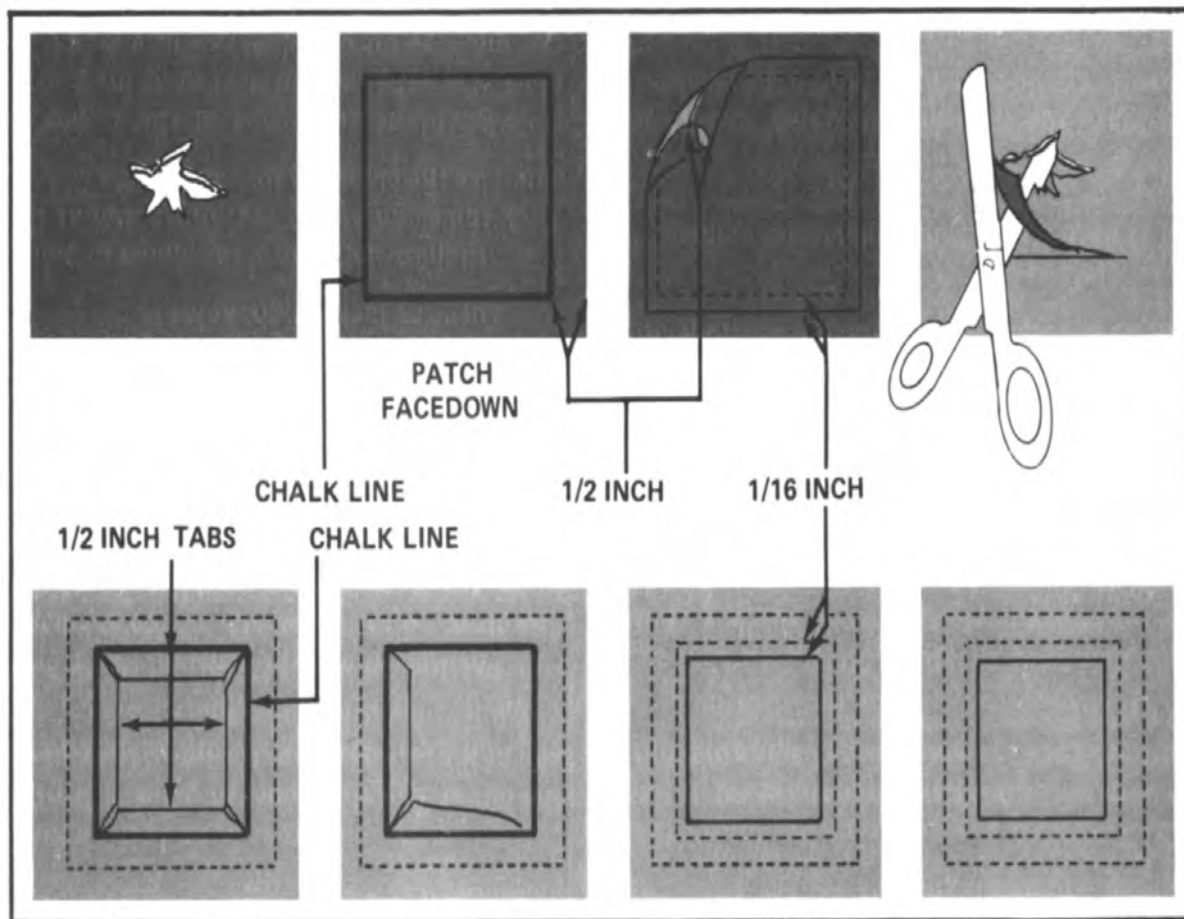

Figure 4-5. Top patch
(1) Top Patch. A top patch (Figure 4-5) is sewn to the outside of a garment or to the top of a textile item. This patch is a piece of material that matches the item being repaired and is cut at least 2 1/2 inches larger on all sides than the hole or damaged area to be covered. To apply this patch--
(2) Inverted Patch. This patch is applied in the same manner as the top patch except that this patch is sewn to the underside of the item rather than the outside.